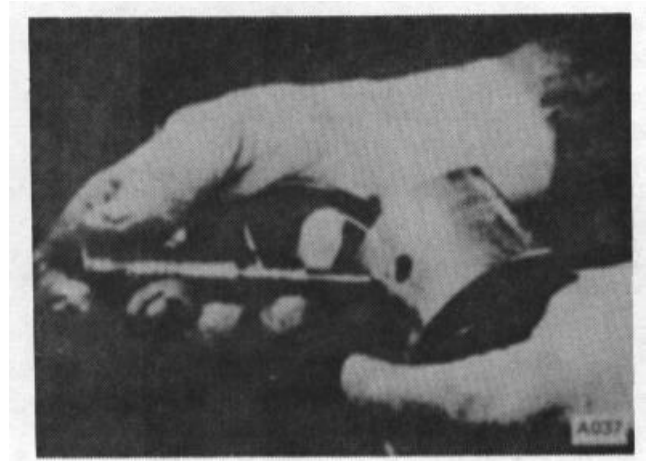

Figure 36.
3. If the visual inspection appears satisfactory, the bearings should be removed and checked for thickness using a ball micrometer. (Fig. 36)